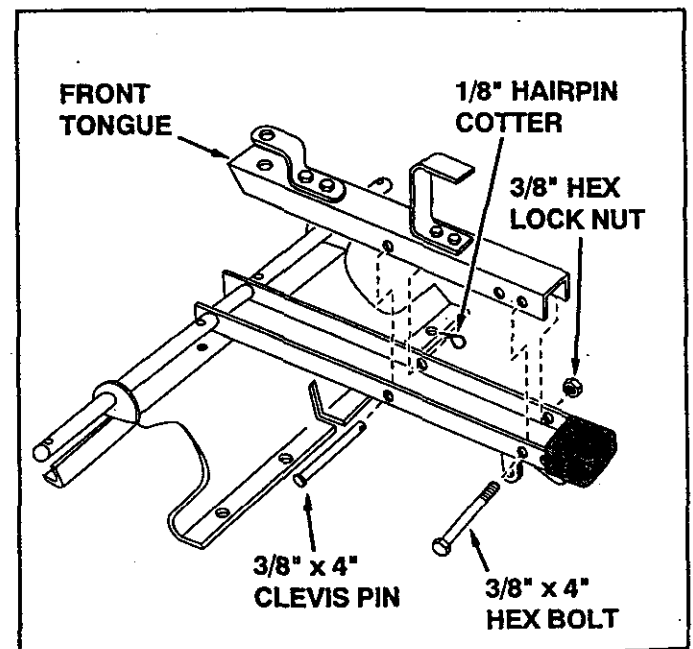

FIGURE 5
- Place the front tongue inside the rear tongue as shown in figure 5. Fasten the tongues together using a 3/8" x 4" hex bolt and a 3/8" hex lock nut. **Tighten** without collapsing the sides of the tongue so that the tongues can pivot freely. See figure 5.
- Insert the 3/8" x 4" clevis pin through the tongues and secure with a 1/8" hairpin cotter, as shown in figure 5.
- To convert the cart for push operation, remove the 4" long clevis pin and hairpin cotter which secure the tongue in the towing position. (See drawing on page 8.) Pivot the front tongue into the storage position underneath the rear tongue and secure it using the same clevis pin and hairpin cotter. (See figure 5 on page 5.) Place the plastic cap over the exposed end of the tongue.